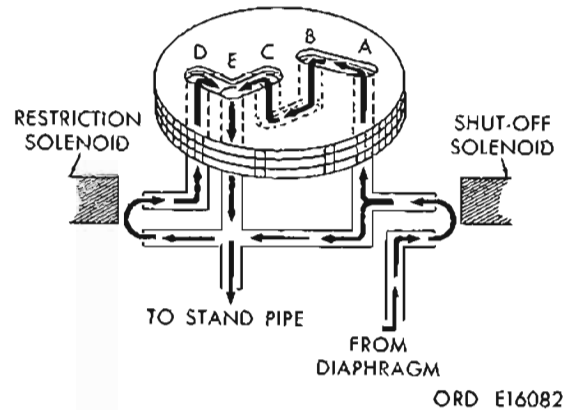

Figure 18-50. Fuel control valve (8720193 heater).
(3) *Fuel system.* Fuel under pressure of 4 to 4.5 psi is delivered to the fuel control valve by the electric fuel pump. The fuel is regulated by the diaphragm and needle valve (pressure regulator portion) of the fuel control valve. From the pressure regulator the fuel flows to the shutoff solenoid. When the shutoff solenoid is closed, no fuel can enter the standpipe, and the heater is completely shut off. When the shutoff solenoid is energized, fuel flows through both the low-heat orifice and the restriction orifice, producing high-heat operation. When the restriction solenoid is energized, fuel flows through the low-heat orifice only (for low heat operation), (fig. 18-50).